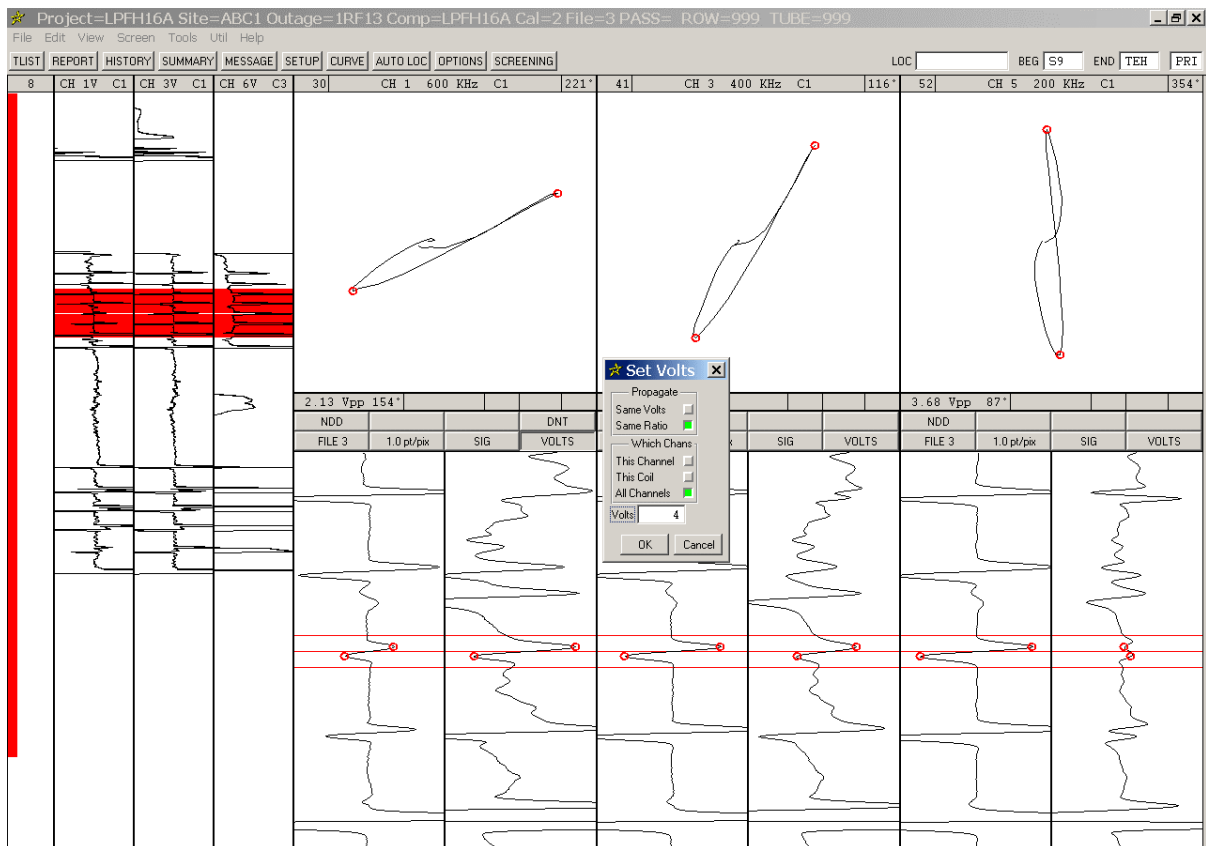

Figure 1-18. Analysis Screen - Setting Relative Voltage
- STEP 10:** The **Set Volts** dialog should now look like Figure 1-18. Click **OK**.